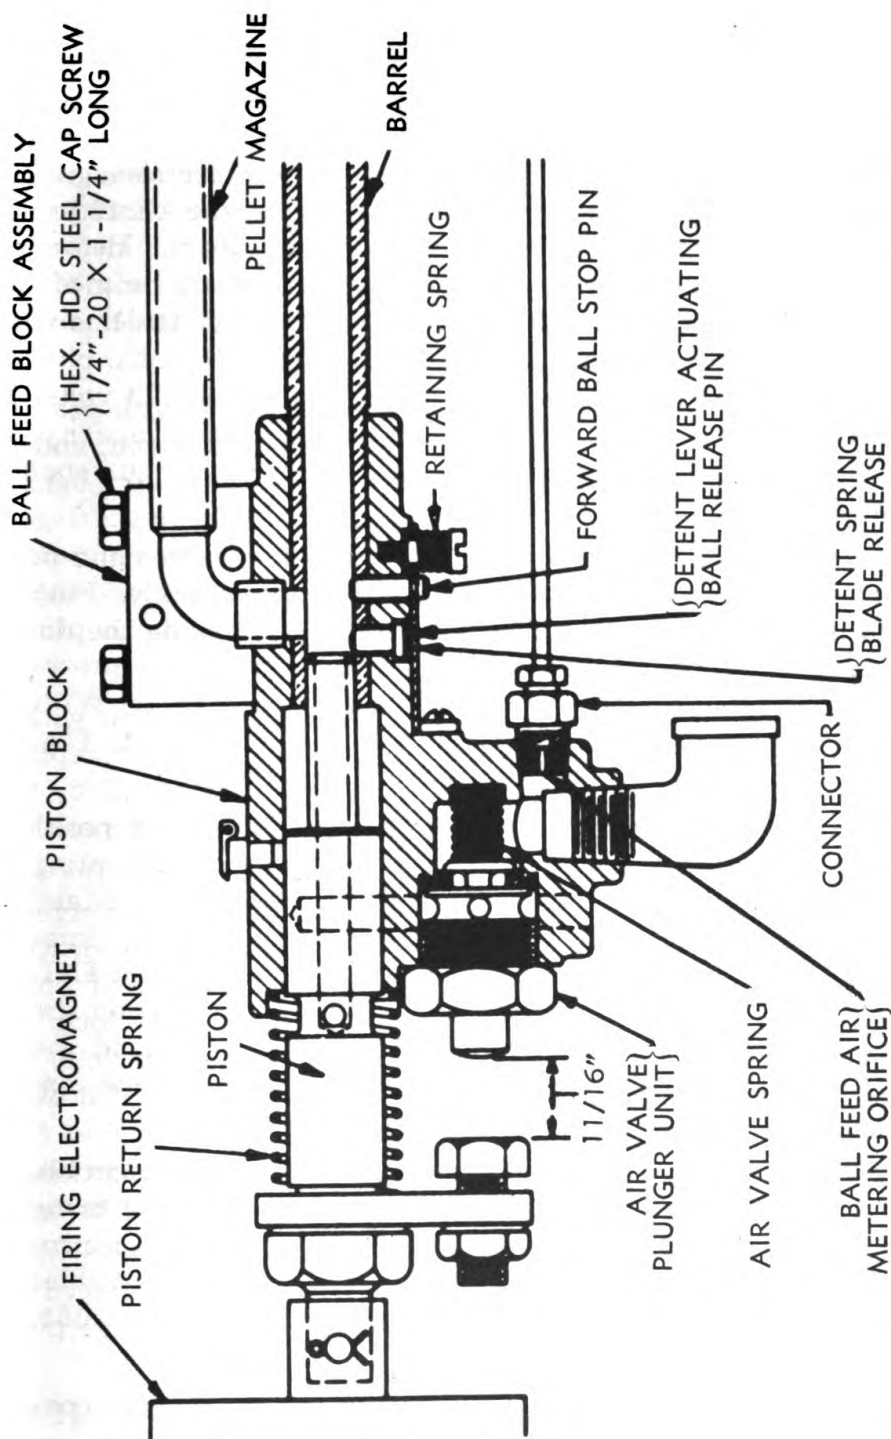
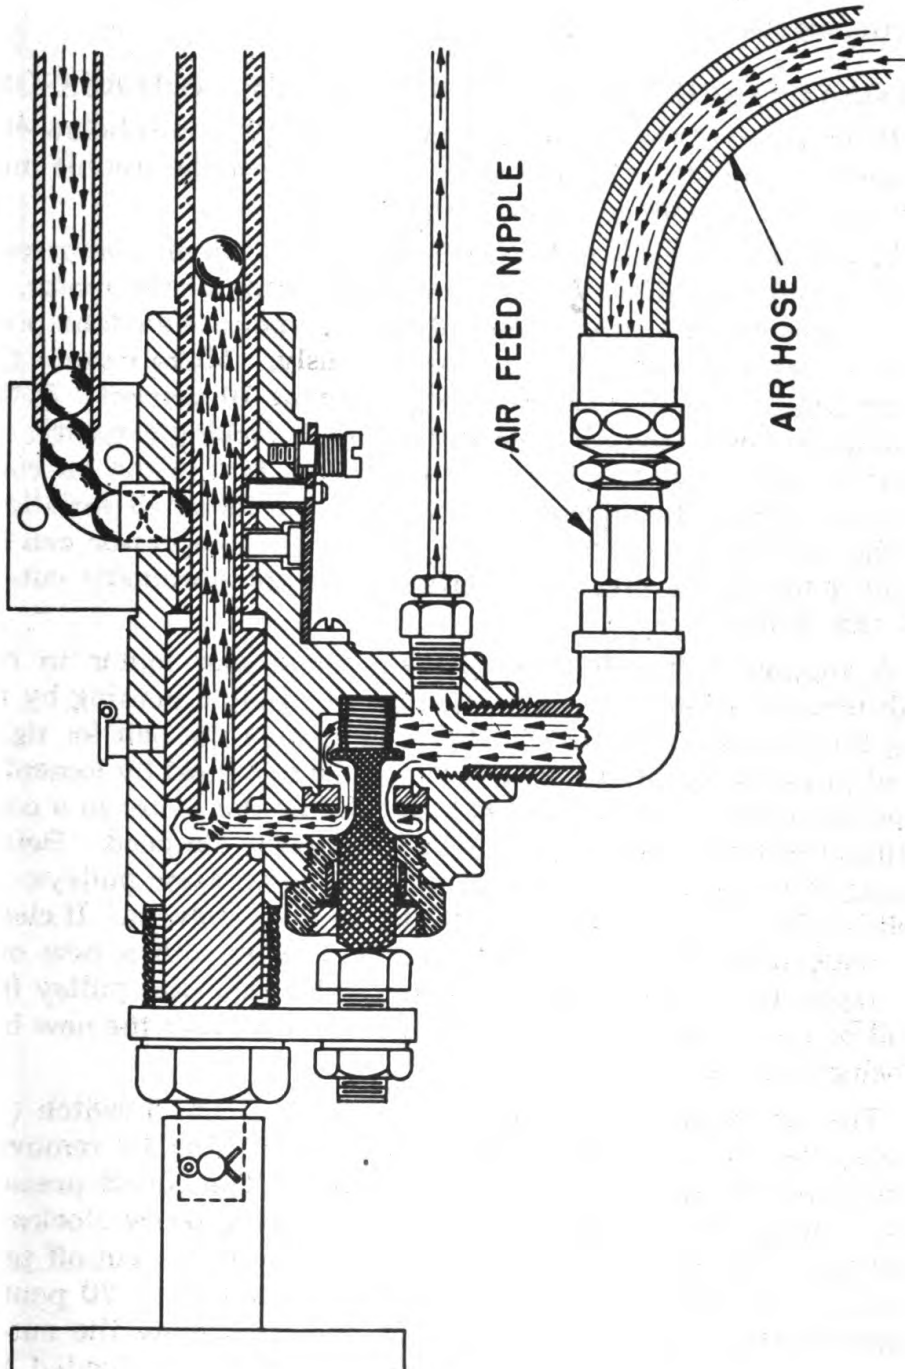

Figure 158 — Feed From Magazine to Barrel
Figure 159 — Air Stream Diagram
e. If the air valve spring (fig. 158) has broken, replace it with a new spring of similar type. If the air valve plunger is worn, replace the air valve plunger unit. The air valve plunger is removed by unscrewing the hexagonal-head nut holding the air valve unit in position.
f. To repair the ball release pin mechanism (fig. 158), the gun must be removed from the cradle. Remove the two holding screws, the stud, and the release spring. Examine the ball release pin for wear at the point where the piston contacts the end of the pin if badly worn. The pin must fit freely in the hole in the piston block. If dirt has accumulated in the hole, causing the pin to stick, clean the hole before reassembling. Examine the release spring and, if broken, replace with a similar spring. When reassembling, be certain that the ball release pin is in its correct position above the release blade. The stud which supports the release spring is tightened after assembly.
m. The air hose connections (fig. 159), air valve assembly (fig. 158), and the loading screw (fig. 110) must be tight to prevent ex-